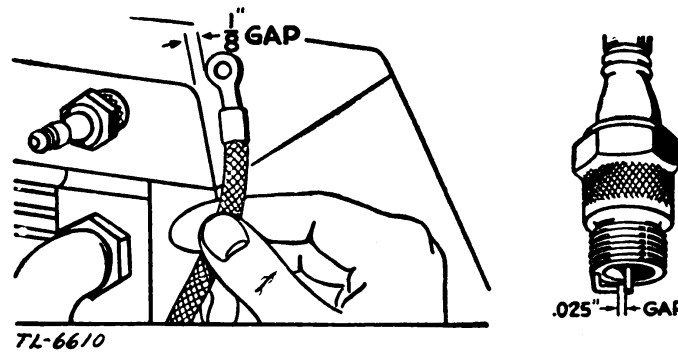

FIGURE 11. Checking spark and spark plug.
ignition system, with the exception of the spark plug, is operating satisfactorily (fig. 11). If no spark occurs, check the spark plug, the spark plug cable, contact points, and capacitor, in the order named.
**b. Spark plugs.** Spark plugs should be cleaned and the points reset to 0.025 inch after each 50 hours of operation (fig. 11). After 100 hours, the plugs should be replaced. Points gradually burn away in service. If the porcelain is cracked or broken, the plug may not fire. Water on the outside of the spark plug may permit the high-voltage current to leak over the surface of the porcelain. Dirt or carbon will produce the same effect. The spark plug can be cleaned by washing with gasoline. Points should be scraped or sandpapered. If a plug is damaged or broken, replace it with a new one. When replacing the spark plug in the cylinder head, grease the threads lightly. Do not get grease on the points. The spark plug